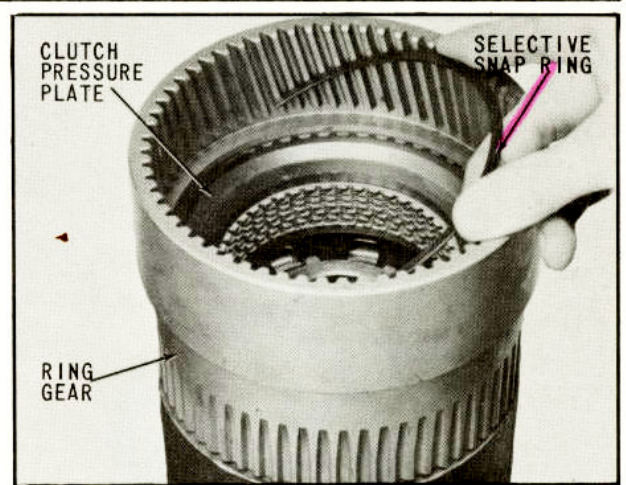

Fig. 40 Installing Selective Snap Ring
33. Install one, or more when needed, of the selective snap rings, as shown in (Fig. 40) to obtain a proper clutch plate clearance of .040-.065.